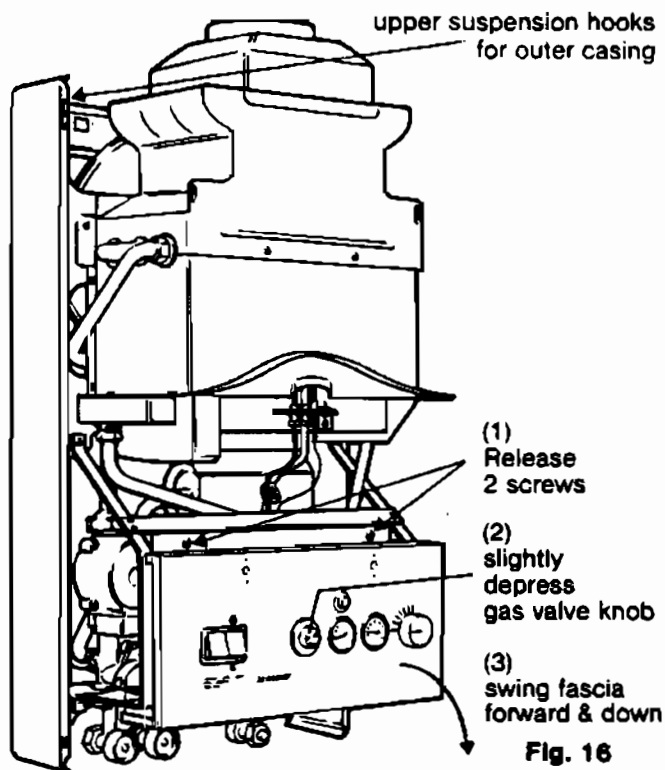

Fig. 16
5.11.2 To gain access to the terminal block, release the 2 screws securing the outer front controls fascia. (see figs 16 & 17). The panel is hinged at the bottom swing it outwards and downwards. Slightly depress the gas control knob to prevent it from fouling the edge of the aperture.